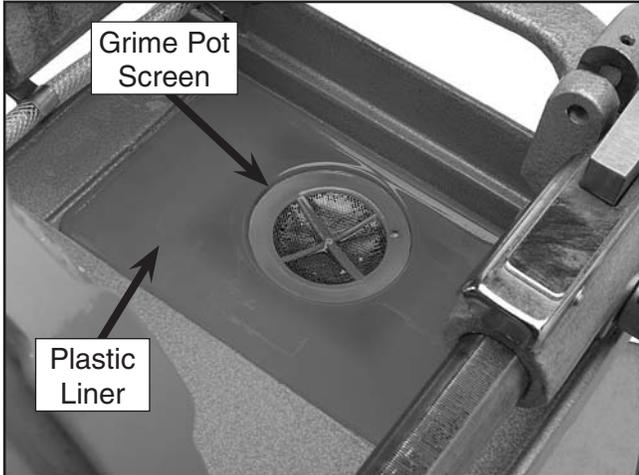

Figure 17. Location of plastic liner with grime pot and screen.
3. Lift the plastic liner (**Figure 17**) out of the fluid reservoir.